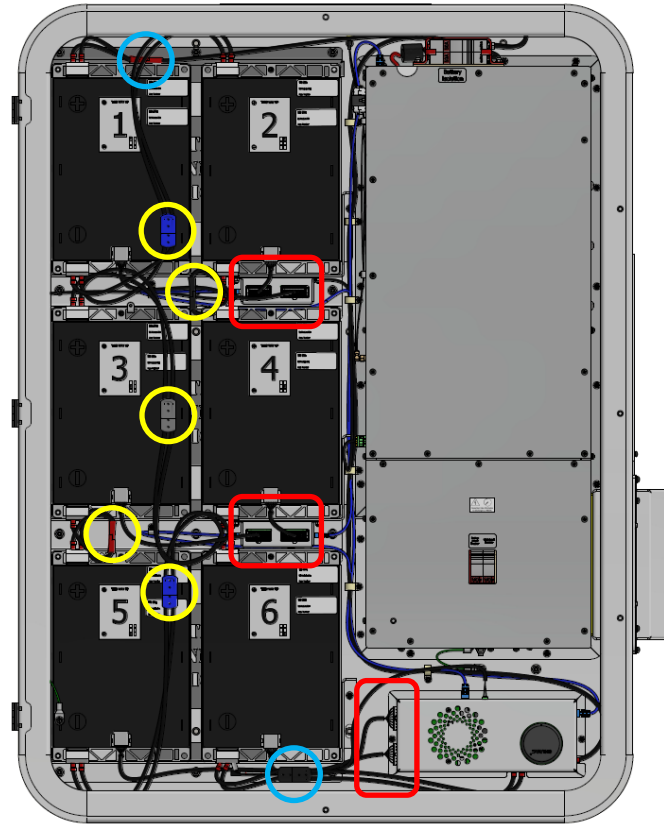

Figure 12 - Module Connections and BMS Connectors
9. First, connect the 3x 16-pin BMS connectors, then the 3x 14-pin BMS connectors, in both cases, working from the bottom up (Figure 12 circled in red).
10. Finally, connect the battery stack connections, the black connector at the bottom and then the red connector at the top (Figure 12 circled in blue).